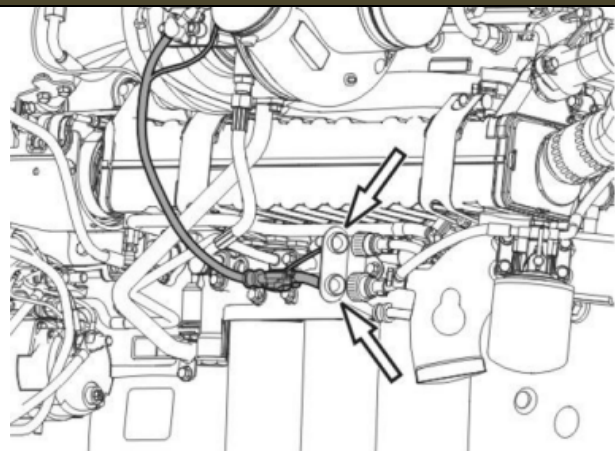

FIGURE 7
10. Disconnect the actuator assembly electrical connector at the wiring harness (FIGURE 7). Cut any tie straps as needed.